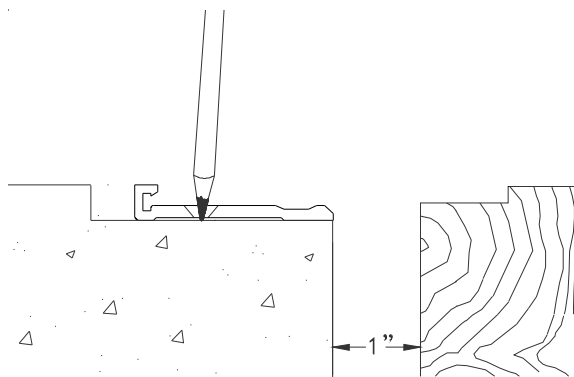

Figure 5
STEP 6. Select a section of the base member and place it into its installed position in the blockout. Ensure that the base member is level, plumb with the edge of the joint and properly aligned with the finished floor and with the corresponding cast-in-place base member installed earlier. Using the base member as a template, mark the location for the anchor holes on the concrete (see Figure 5).